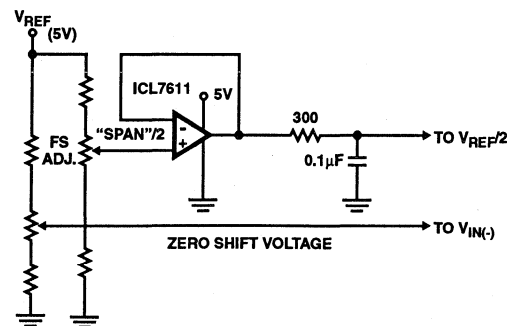
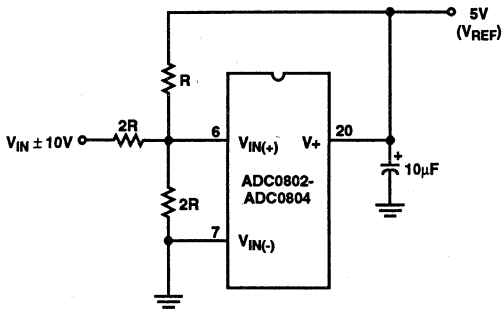

FIGURE 13. OFFSETTING THE ZERO OF THE ADC0802 AND PERFORMING AN INPUT RANGE (SPAN) ADJUSTMENT
FIGURE 14. HANDLING ±10V ANALOG INPUT RANGE
3.5V, instead of 0V to 5V, the span would be 3V. With 0.5V applied to the $V_{IN(-)}$ pin to absorb the offset, the reference voltage can be made equal to 1/2 of the 3V span or 1.5V. The A/D now will encode the $V_{IN(+)}$ signal from 0.5V to 3.5V with the 0.5V input corresponding to zero and the 3.5V input corresponding to full-scale. The full 8 bits of resolution are therefore applied over this reduced analog input voltage range. The requisite connections are shown in Figure 13. For expanded scale inputs, the circuits of Figures 14 and 15 can be used.